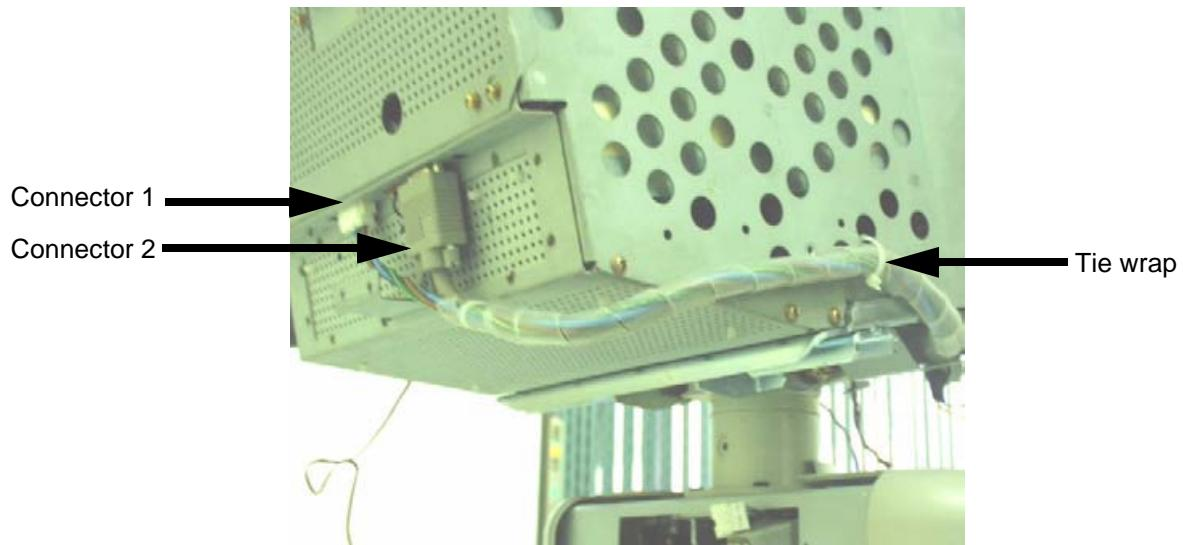

Figure 8-7 Disconnect Connectors and Cut the tiewrap
- 3.) Disconnect two connectors (1-2) and cut the tie wrap in the location (3). Refer to Figure 8-7.